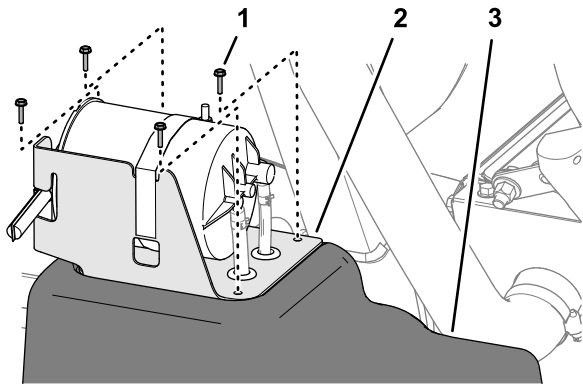

Figure 93
5. Align the holes in the carbon-canister bracket with the holes in the fuel tank (Figure 93).
6. Assemble the bracket to the tank (Figure 93) with the 4 screws (#10 x 3/4 inch).